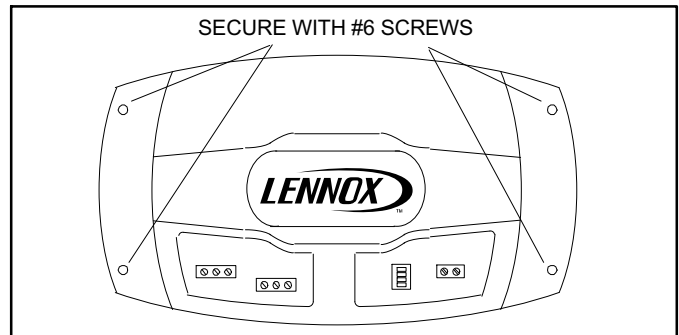

Figure 3. Zone Link Module (A148)
1. Install the module directly on the wall in a mechanical equipment room (see figure 3). OR, Install the module inside the unit in the control area if space is available. The module can be installed outside of the unit if a NEMA 3 approved enclosure is used.